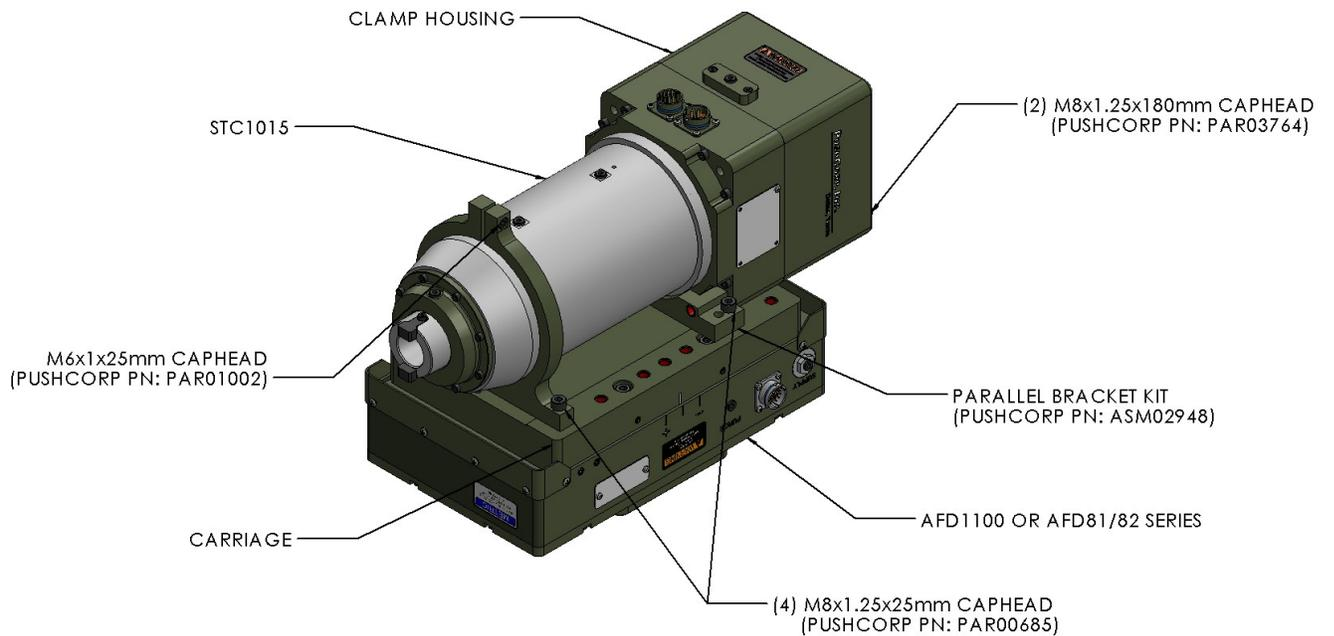

Figure 2. STC1015 Parallel-Axis Configuration
For the Parallel-Axis configuration, shown in Figure 2, the 1015 attaches to the AFD Carriage with two brackets and four (4), M8x1.25x25mm, Socket Head Cap Screws. The 1015 is positioned on the Carriage with the Foot Bracket while the Front Bracket is attached to the forward mounting holes. The Clamping Screw on the Front Bracket should be loose to allow sliding movement along the motor. Attach the Foot Bracket to the Clamping Housing using two (2), M8x1.25 Socket Head Cap Screws. When the desired position is achieved secure the brackets to the Carriage, and tighten the Clamping Screw. The M8x1.25, Socket Head Cap Screws, must be the proper length and tightened to the torque specified in Section 4.0.